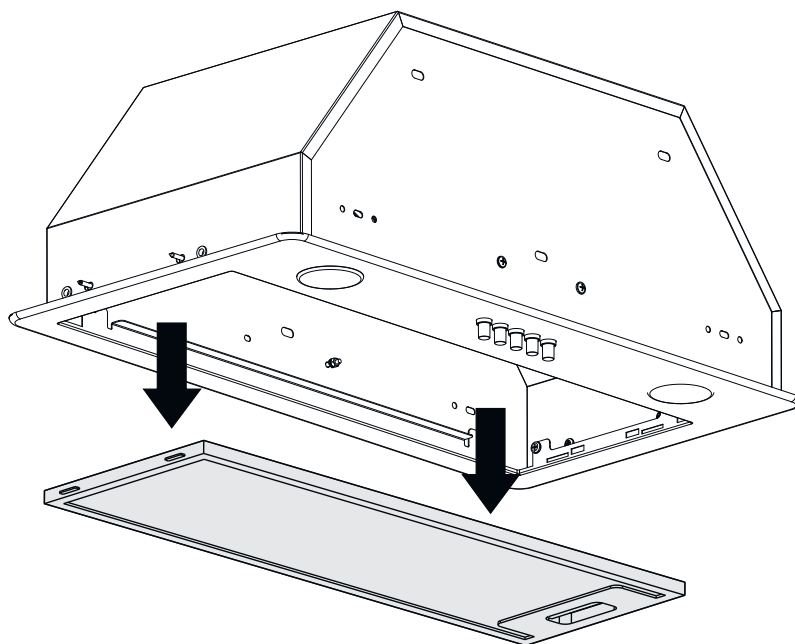

Fig. 13
2. → Unpack the device and place it in a suitable place; press the aluminum filter latch, pull it towards you and remove it (Fig. 13).